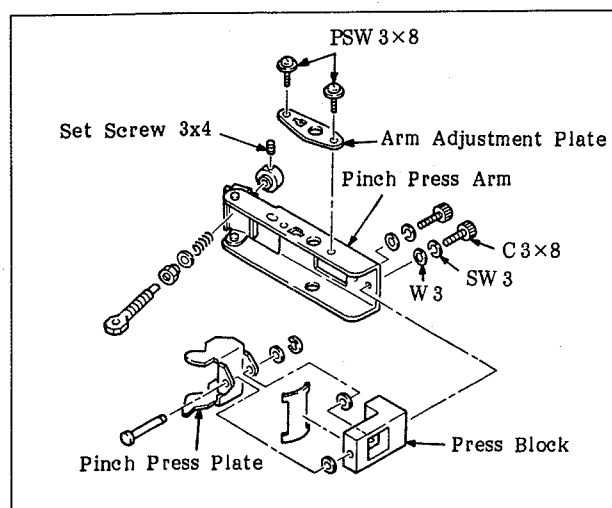

Fig. 6-107 Replacement of the Components of the Pinch Roller
2. Remove the component that needs to be replaced and replace it with a new one by referring to Figure 6-107.